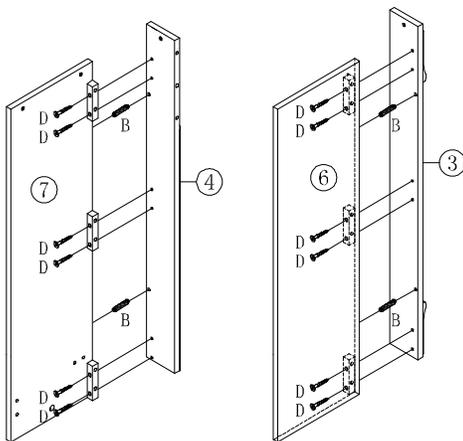

Figure 2
INSERT 4PCS WOOD DOWELS (B) INTO PREDRILLED HOLES ON LEFT AND RIGHT SIDE PANELS (6 & 7) AND FIT INTO CORRESPONDING HOLES ON LEFT AND RIGHT FRONT PANELS (3 & 4). INSERT 12PCS FLAT HEAD LONG SCREW (D) THROUGH PREDRILLED HOLES ON WOOD BARS ON INSIDE OF LEFT AND RIGHT SIDE PANELS (6.7) AND TIGHTEN INTO CORRESPONDING HOLES ON BACK OF LEFT AND RIGHT FRONT PANELS (3.4). AS FIGURE 2 SHOWN.